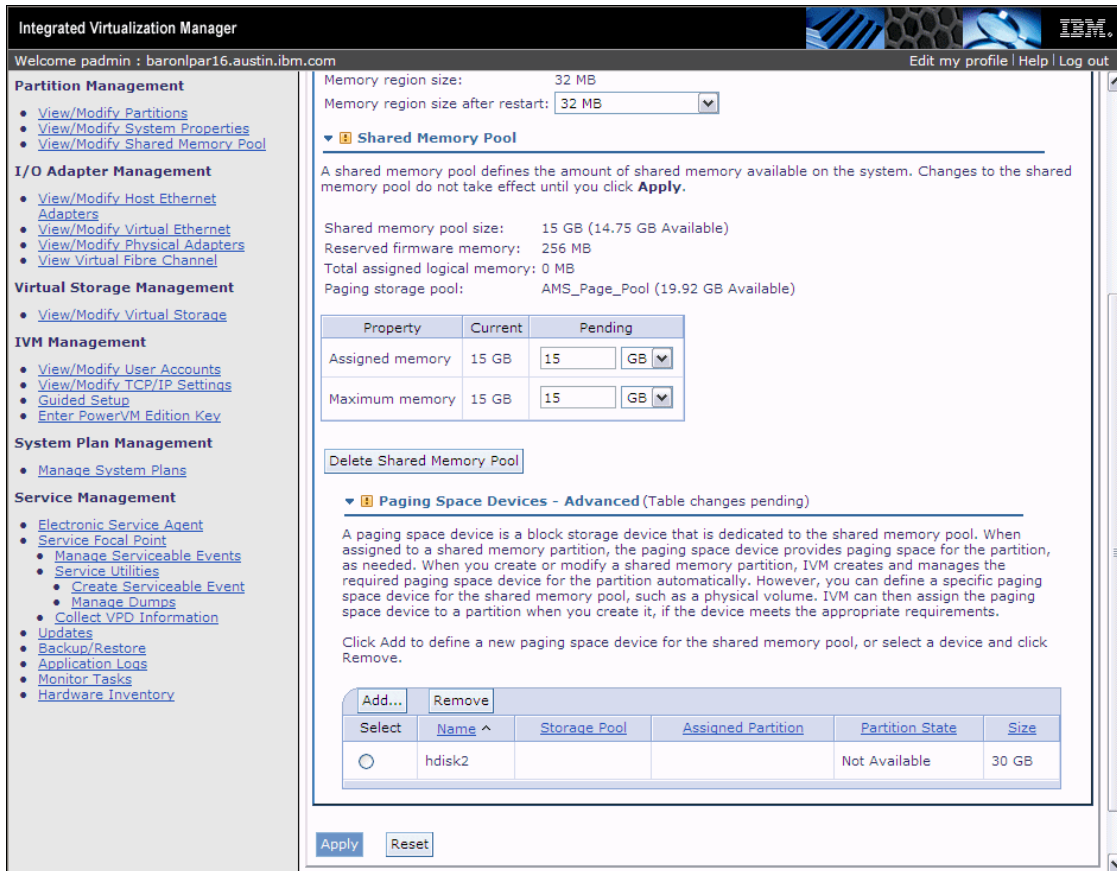

Figure 5-11 Dedicated device defined to paging space devices
- Figure 5-11 on page 194 shows the selected device now defined as a paging device. The **Apply** button must be clicked to complete the process.